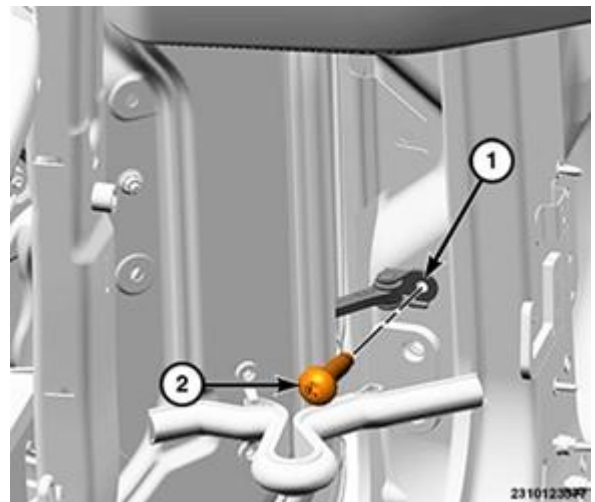

Figure 15 – Door Check Bolt
22. Remove the bolt (2) securing the door check (1) (Figure 15).
67. Install the door check strap bolt securing the door check and tighten to 9N·m (80 in. lbs.) (Figure 15).